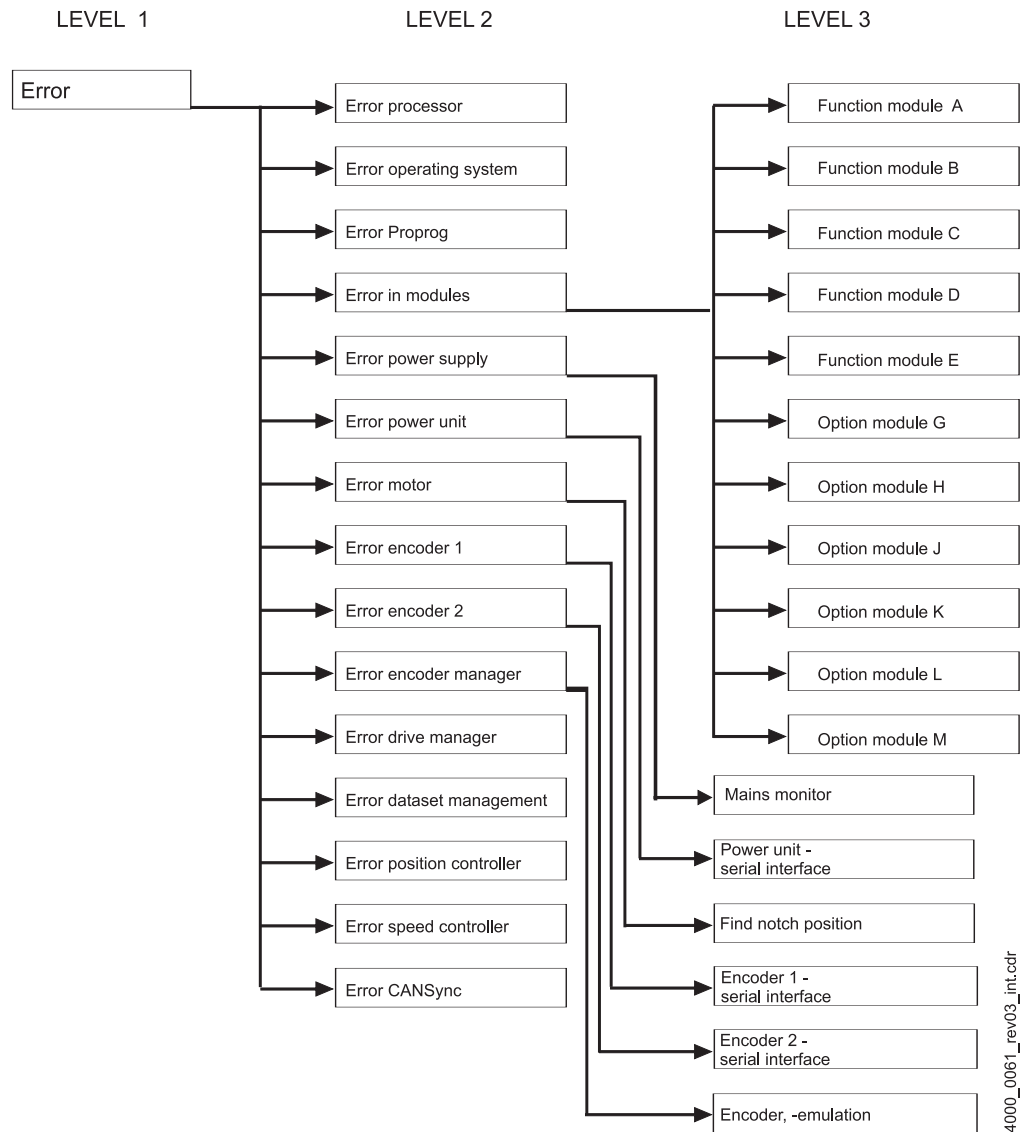

Figure 107: Survey error list
- 2nd level** Order of the error messages refer to survey (▶Figure 107◀ on page 246).